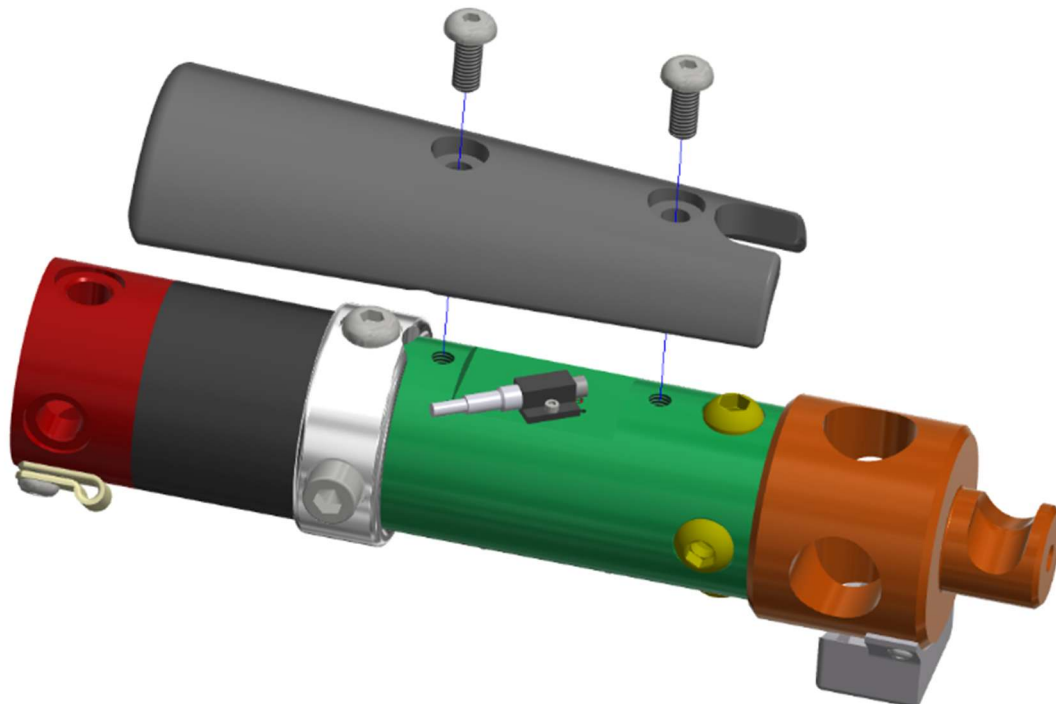

Figure 10-59. Attach the Shin Guard (474-5518-1,2)
10.3.24 Attach the Shin Guard (474-5518-1,2) to the Lower Tibia Shaft (474-5540-1,2) using two M5 X 0.8 X 12 LG. BHCS (Figure 10-59).